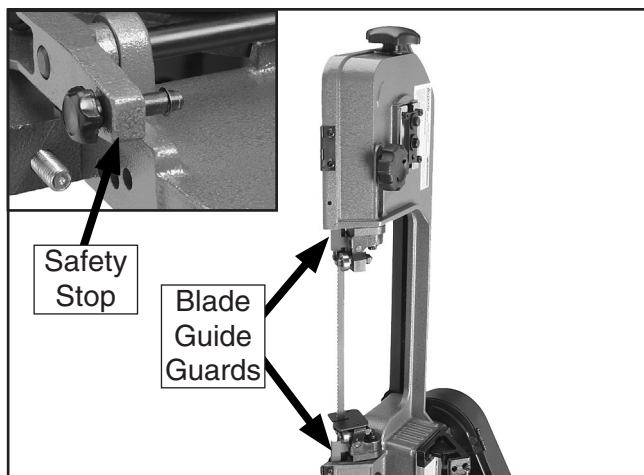

Figure 38. Blade guide guards and fasteners.
3. Push the safety stop in, use a screwdriver to remove the upper and lower blade guide guards, and loosen the blade guides (see **Figure 38**).